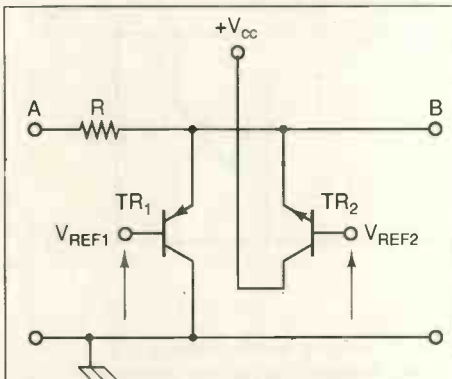
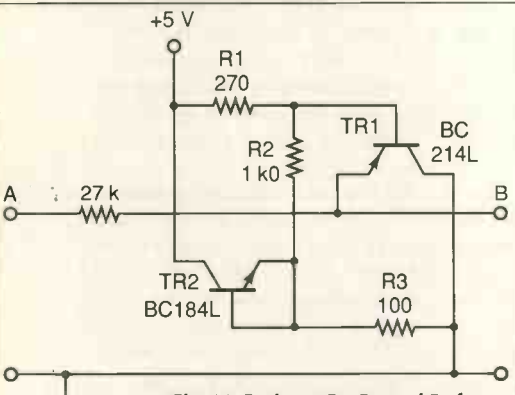
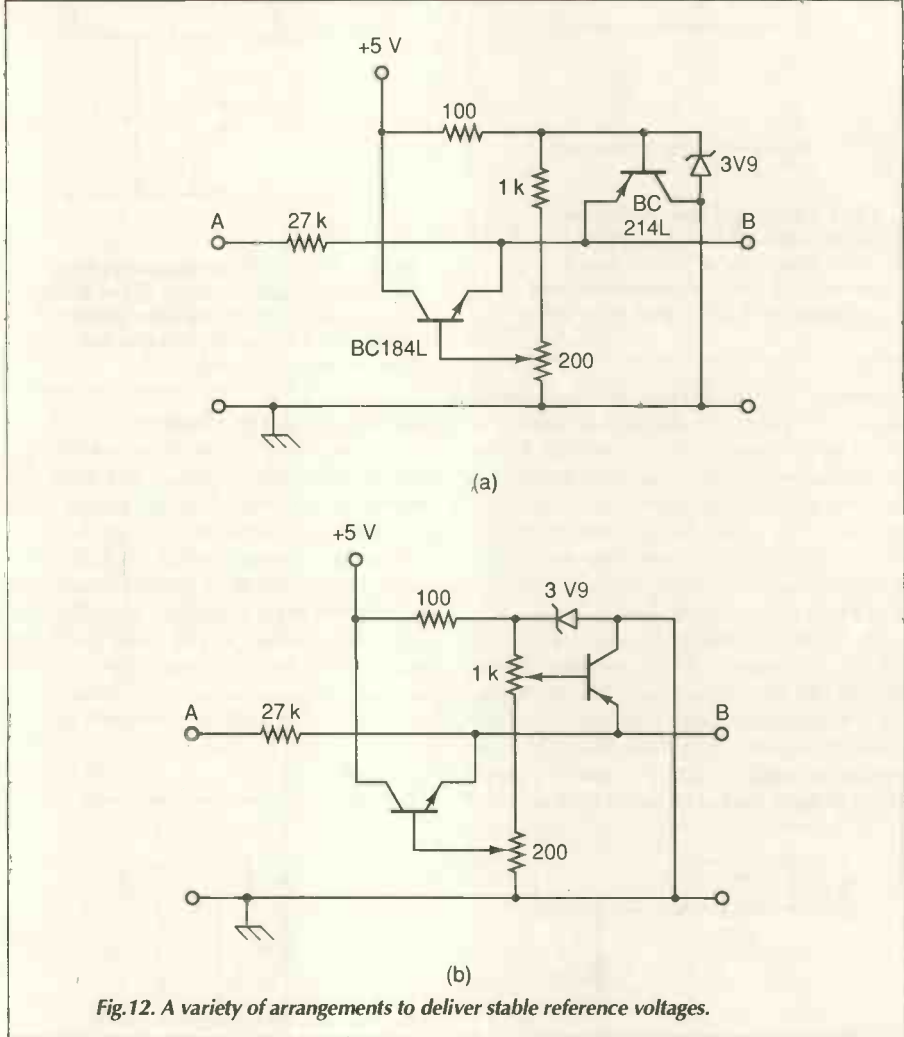

Fig. 10. Protecting input circuitry powered from a single supply is more difficult: both transistors share the common protection resistor  $R$ .
Fig. 11. Resistors  $R_1$ ,  $R_2$ , and  $R_3$  form a potential divider arrangement to generate the reference voltages for both transistors.
Fig. 12. A variety of arrangements to deliver stable reference voltages.
Protecting input circuitry powered from a single supply is more difficult. This is because peak negative signals, appearing at terminal  $B$ , must not exceed  $-0.3V$ . One method of achieving this is to replace  $D_1$  by a second emitter-follower using an NPN transistor. This is shown in Fig. 10 where both transistors share the common protection resistor  $R$ . The peak negative potential appearing at  $B$  will have the value  $V_{b(min)} = V_{ref2} - V_{be2}$  where  $V_{ref2}$  is the base potential of the NPN transistor  $TR_2$ , and  $V_{be2}$  is the forward volt drop of its base-emitter junction. In practice the value of  $V_{ref2}$  is greatly restricted. If greater than about +0.4 volt,  $TR_2$  may begin to conduct with input signals just above zero volts thereby degrading low level signals. In addition a diode drop below  $V_{ref2}$  should not exceed 0.3V. A good value to choose is  $V_{ref2} = 0.35V$ . The circuit of Fig. 11 uses resistors  $R_1$ ,  $R_2$ , and  $R_3$  in a potential divider arrangement to generate the reference voltages for both transistors. It is worth choosing metal film resistors for this application. They have 1% tolerance, possess excellent temperature stability and are very low noise devices. In the circuit of Fig. 11 the values of  $V_{ref1}$  and  $V_{ref2}$  are
This circuit passed input voltages very faithfully over the range zero to +4.45V. An input voltage of +40V clamped  $B$  at +4.75V, while a  $-40V$  input clamped  $B$  at  $-0.24V$ . The circuits of Fig. 12 show a variety of arrangements to deliver stable reference voltages. Also the 200 $\Omega$  potentiometer permits an optimum setting of  $V_{ref2}$  for the chosen NPN transistor. The circuit in Fig. 12(b) also allows adjustment of  $V_{ref1}$ .
The circuits of Fig. 11 and Fig. 12 are also suitable for monopolar ranges whose circuitry operates off dual supplies. The reduced leakage in  $TR_2$ , compared with  $D_1$ , is one important advantage.